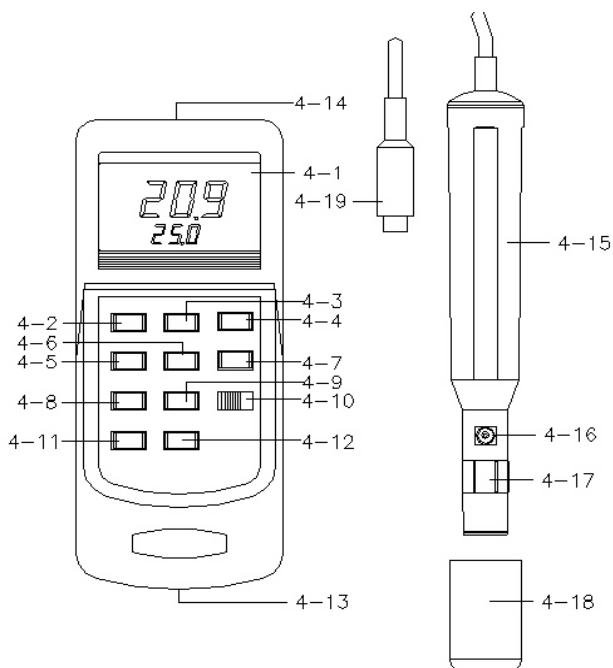

Fig. 1
- 1) Disconnect the " OXYGEN PROBE plug " (4-19, Fig. 1) from the " Probe input socket " (4-14, Fig. 1).
- 2) Power on the instrument by pushing the " Power Off/On button " (4-2, Fig. 1).
- 3) Slide the " O2/DO selector " (4-10, Fig. 1) to the " O2 " position.
Push the " Zero button " (4-8, Fig. 1) and the display will show zero value.
- 4) Connect the " Oxygen probe plug " (4-19, Fig. 1) with the " Probe input socket " (4-14, Fig. 1). Wait for approx. 5 minutes at least until the display reading values become stable & no fluctuation. Push the " O2 Cal. button " (4-11, Fig. 1) and the display will show the values exactly same as 20.9 or 20.8. (As the oxygen in air is 20.9 % typically, so use the environment air O2 value for quick & precise calibration).
- 2) Slide the " O2/DO selector " (4-10, Fig. 1) to the " DO " position.
- a. Push the " % Salt button " (4-9, Fig. 1) first, and the display will show. :
- b. Push the " Factor Adj. button " (4-7, Fig. 1) once will add " 1 % " to the original salt % value until the adjusting reading reach the desired salt values. Then push the " % Salt button " (4-9, Fig. 1) again to finish the adjusting procedures. At this moment the new % salt values will be executed.
- a. Push the " MT (Height) button " (5-12, Fig. 1) first, then the display will show
- b. Push the " Factor Adj. button " (4-7, Fig. 1) once will add " 100 meters " to the original height values until the adjusting reading reach the desired height values (meters). Then push the " MT (Height) button " (4-12, Fig. 1) again to finish the adjusting procedures. At this moment the new height values (display unit is the " meters ") will be executed.
- 2) Slide the " O₂/DO selector " (4-10, Fig. 1) to the " O₂ " position.
- * Push the " °C/°F button " (4-4, Fig. 1) once to select measuring unit in °C or °F.
During the measurement, Push the " Data Hold button " (4-3, Fig. 1) will hold the display values & LCD will show the " D.H " marker.
- * The DATA RECORD function displays the maximum, minimum and average readings. To start the DATA RECORD function, press the " Memory Record button " (4-5, Fig. 1) once. " REC " symbol will appear on the LCD display.
- (a) Push the " Memory CALL button " (4-6, Fig. 1) once, the " Max " symbol along with the maximum value will appear on the display.
To de-activate this feature, select the memory record function during measurement by pressing the " RECORD " button (4-5, Fig. 1).